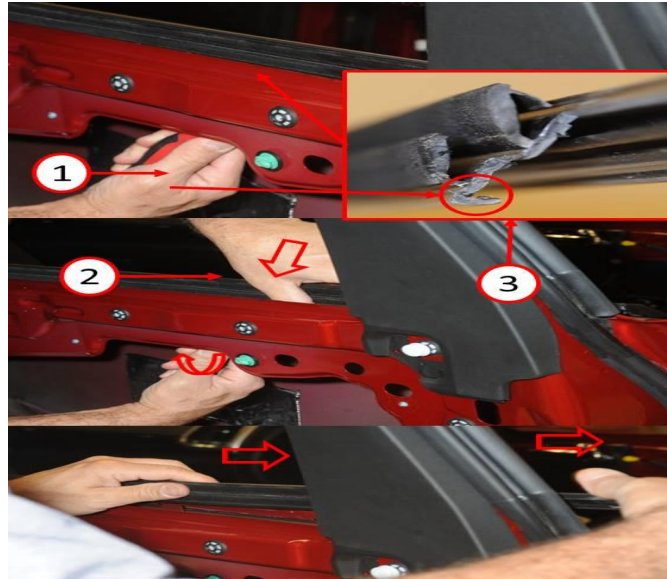
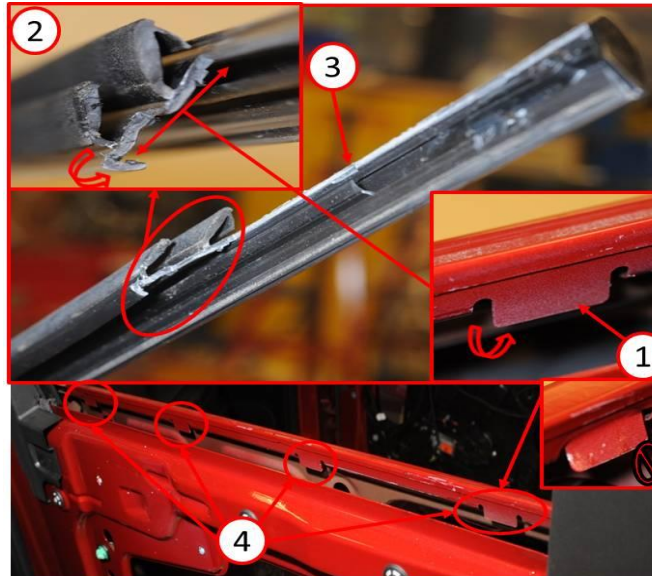

Fig. 2 Belt Molding Removal
Fig. 3 Belt Molding Installation
3. Remove the outer door belt weatherstrips (2) using a hooked pick tool or equivalent (1) to unhook the retaining lip (3) of the belt molding and slide it off of the door (Fig. 2) & (Fig. 3).
NOTE: Do not pull up on the door belt moldings (2) unless retaining lip (3) is fully detached as this will bend the metal retaining tabs which secure the retaining lip of the belt molding (Fig. 2) & (Fig. 3).